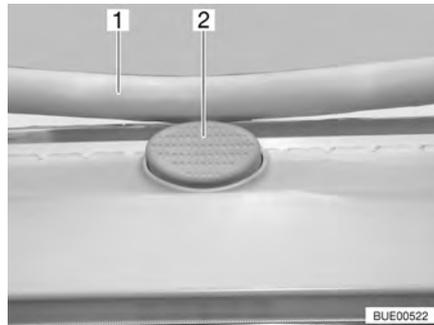

Fig. 73 Safety knob on the Heki skylight
- Press the safety knob (Fig. 73,2) and pull the bar (Fig. 73,1) down with both hands.
- Push the bar upwards with both hands until it is above the safety knob (Fig. 73,2).